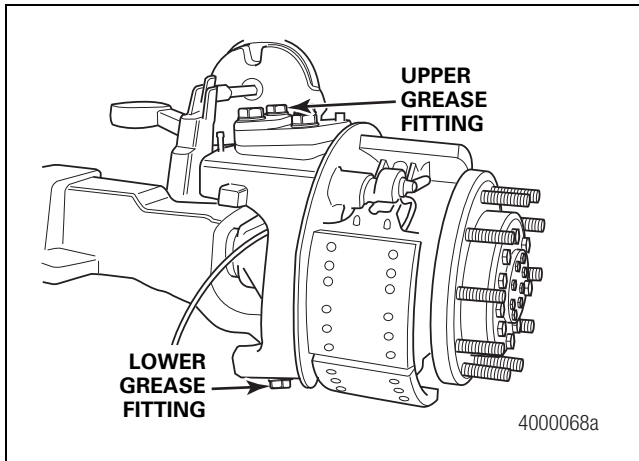
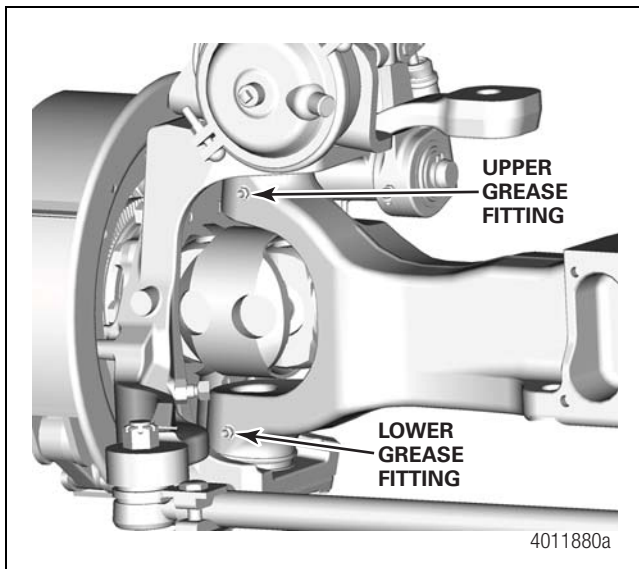

Figure 10.2
Figure 10.3
3. Lubricate the king pins through the grease fittings. The fittings may be located on the upper cap or steering arm and lower cap, or on the axle. Figure 10.2 and Figure 10.3.